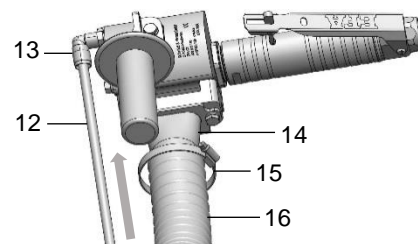

Fig. 5.2 – Compressed air hose
- 4) Push the water connection (12) into the swivel fitting (13) of the EFA CT as far as it will go. See *Fig. 5.2*.
- 5) Slide the suction hose (16) of the vacuum system onto the connection pipe (14) and secure with a hose clip (15). See *Fig. 5.2*.